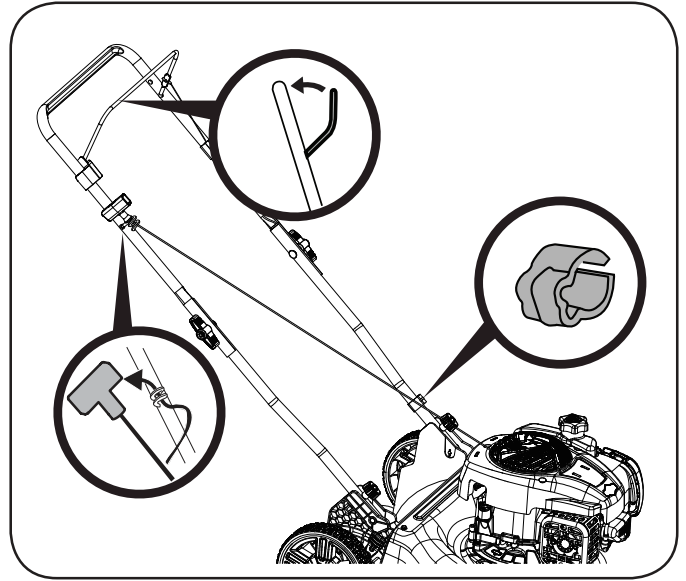

Figure 5
1. Hold the blade control handle against the upper handle (Figure 5).
2. Slowly pull starter rope handle from engine and slip starter rope into the rope guide (Figure 5).
3. Use the cable clamp to secure the control cable to the handle (Figure 5).